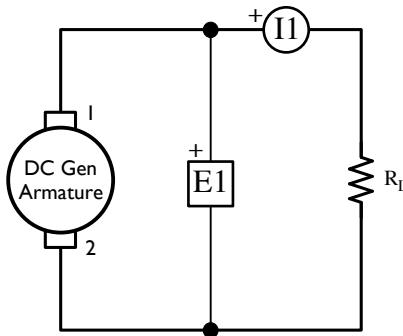

Figure 3.5: DC Generator Armature Circuit, with Load
23. With the power off, modify the connections to add a resistive load R_L across the generator output as shown in Figure 3.5. Use all nine resistors of the *resistive load*